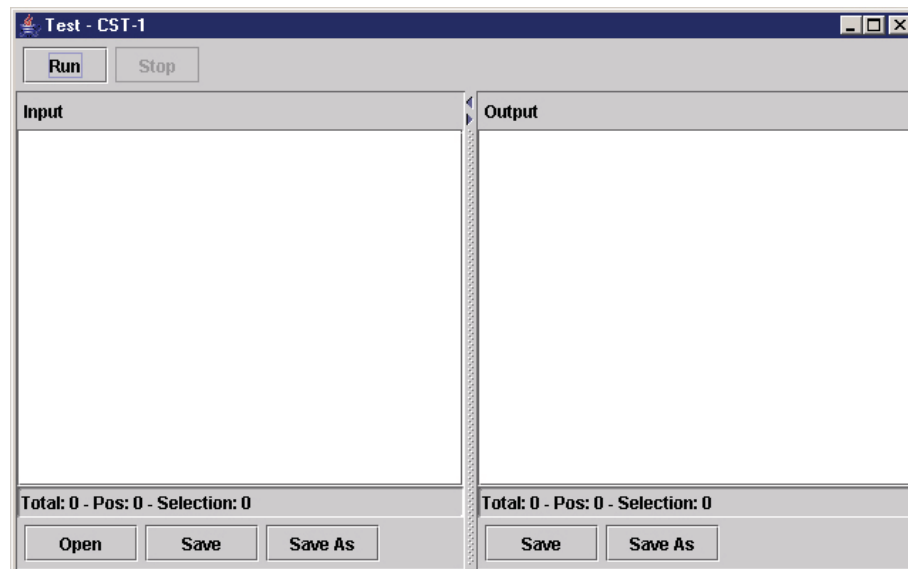

Figure 158 The Test Window
35. Select **Tools** ► **Test**. The Test window opens. See Figure 158.